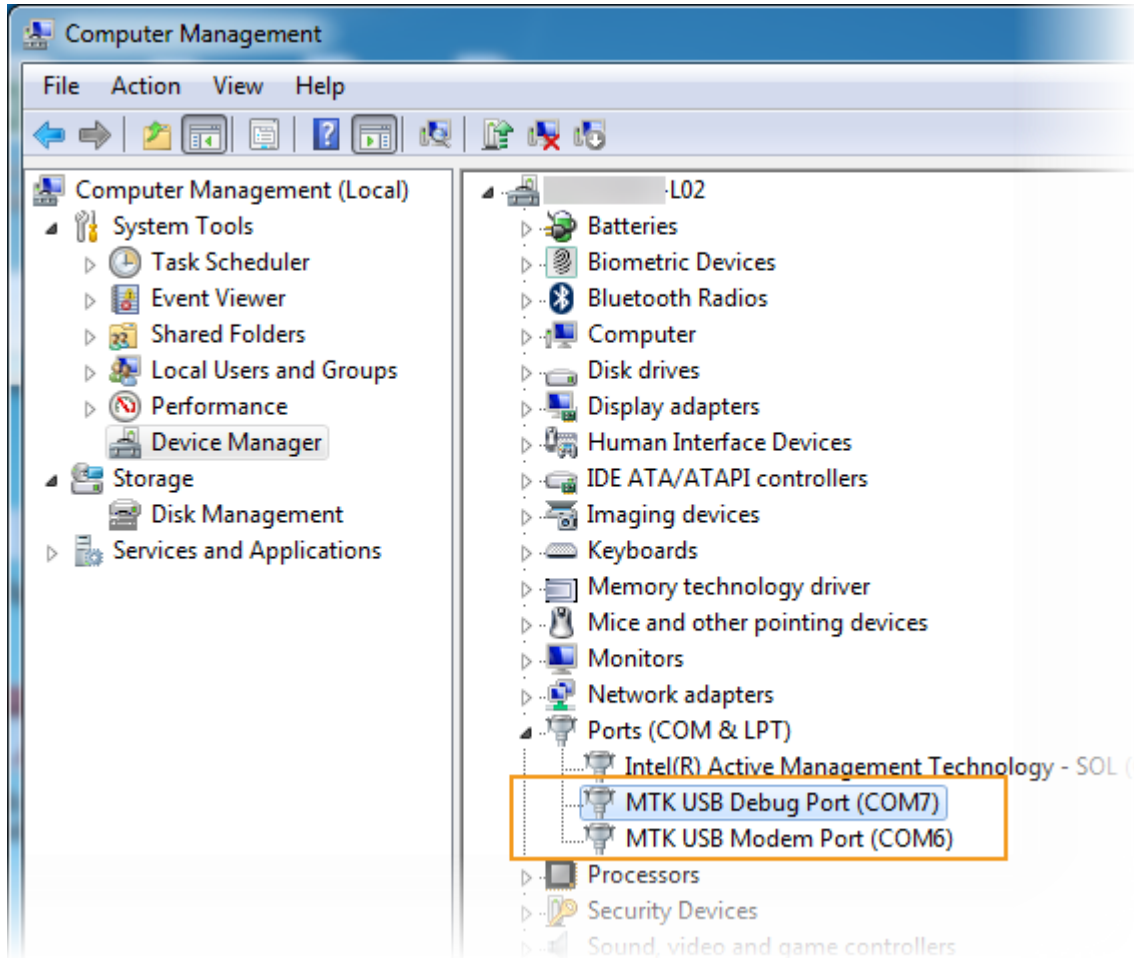

Figure 17. Debug and modem ports for MTK USB port
- 2) In **Device Manager**, navigate to **Ports (COM & LPT)** and locate **MTK USB Port (COMx)**, as shown in Figure 17.